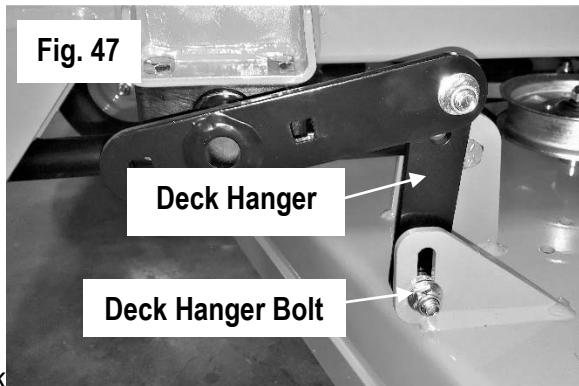

Fig. 47
4. Using a pair of 9/16" wrenches, loosen all deck hanger bolts on the top of the deck. These are the lower bolts in the slots of the deck as shown in Fig. 47. Do not loosen the upper bolts that attach the deck hangers to the actuator lift bars.